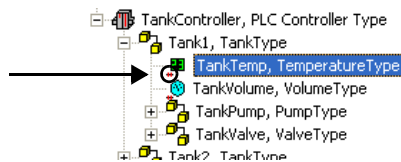

Figure 26. Icon Indicating a Not Connected Process Signal
26. The **\*\*** icon indicates that the process signal is not connected externally as shown in Figure 26.